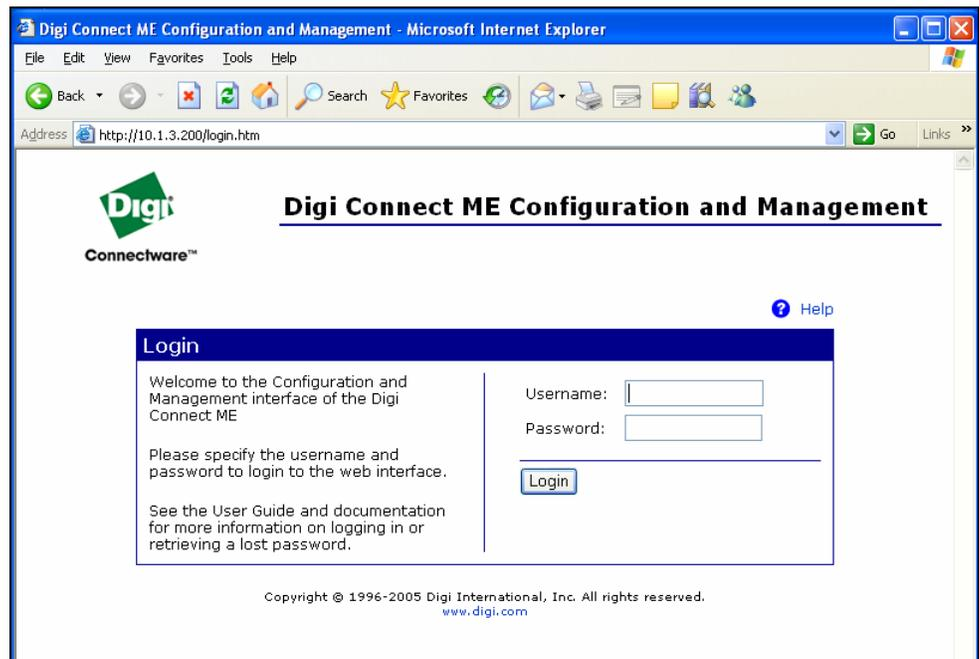

Figure 7-3
6. If the CPC is in the same subnet as the computer, start the device discovery program **Discovery.exe** and click on **Open web interface**. The username and password are **tsicpc** as shown below in Figure 7-3. If the CPC is not in the same subnet as the computer, type in the IP address in your web browser. Work with your network administrator to make sure the IP address is accessible from the network your computer is in.